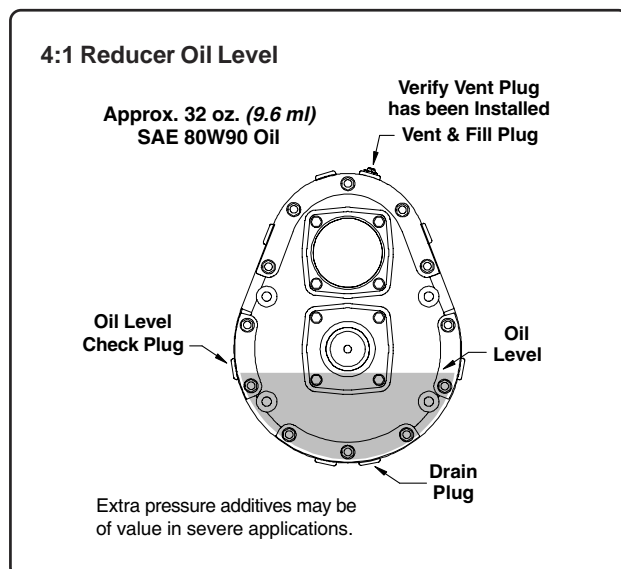

Fig. 5
1. With the gearbox in the upright position, remove the level check plug shown in Fig. 5 below.
2. Discard the plug removed from the top of the gearbox fill opening and install the vent plug shipped separately with the gearbox (See Fig. 5).